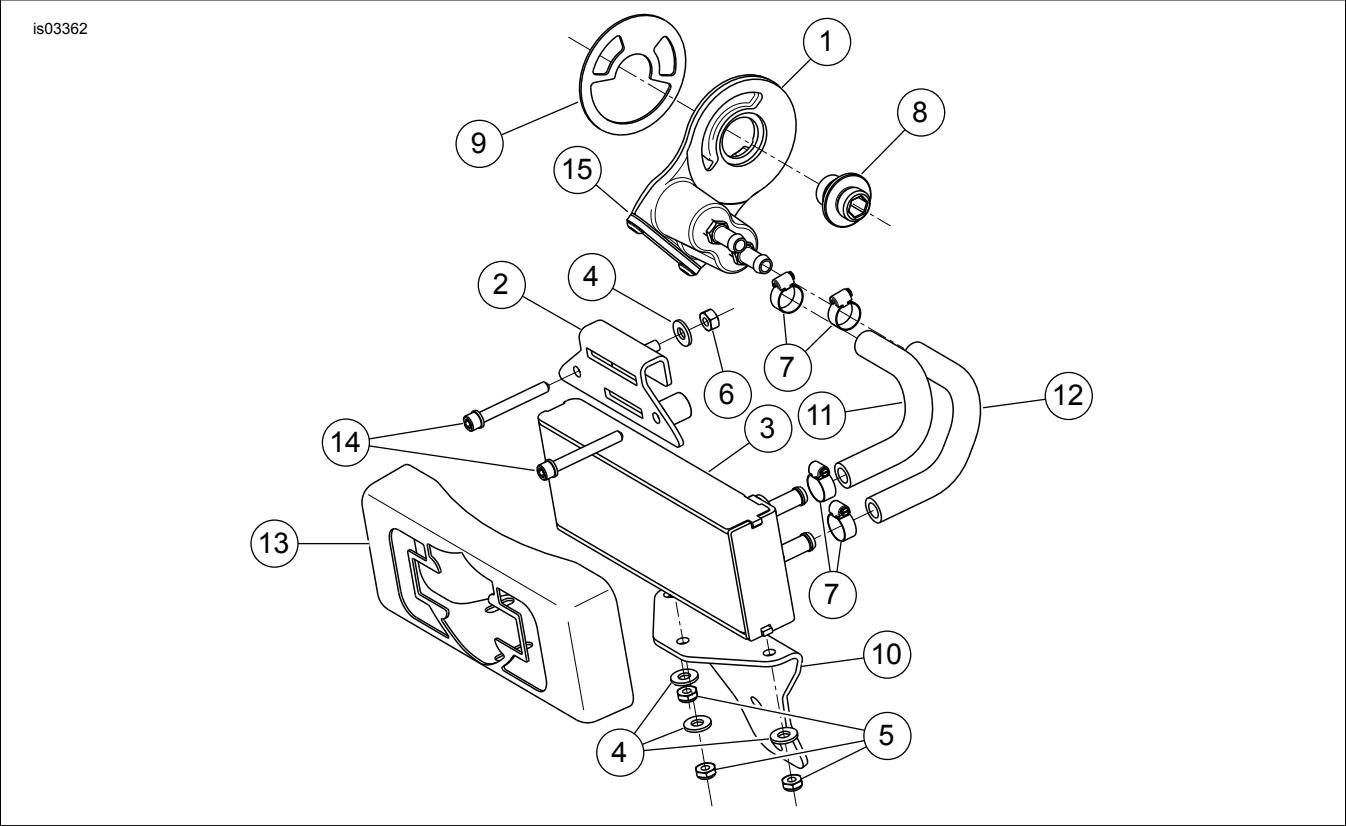

Figure 5. Service Parts for Dyna Oil Cooler Kit and Chrome Oil Cooler Cover
See Figure 5 and Table 1.
10. Install the oil adapter assembly and gasket onto the oil filter mounting surface of the engine with the adapter (2). Verify the adapter is positioned properly on the mounting surface. Verify the raised lip of the mounting fitting faces the adapter assembly. Tighten mounting fitting to 16.3–21.7 N·m (12–16 ft-lbs).
11. See Figure 5. Install two clamps (7) onto each hose (11 and 12) and follow the markings on the hoses to connect them onto the oil cooler and oil cooler adapter.
12. Fasten hoses to oil filter adapter and oil cooler with worm drive clamps (7). Tighten clamps to 0.9 N·m (8 in-lbs).